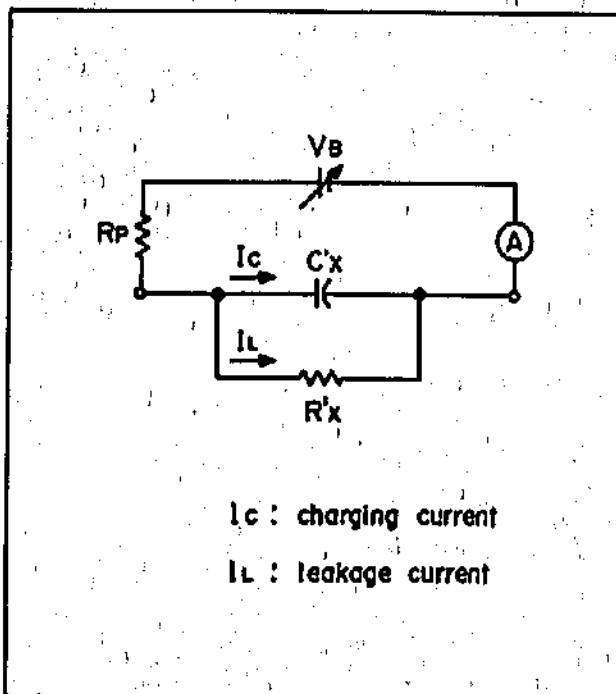
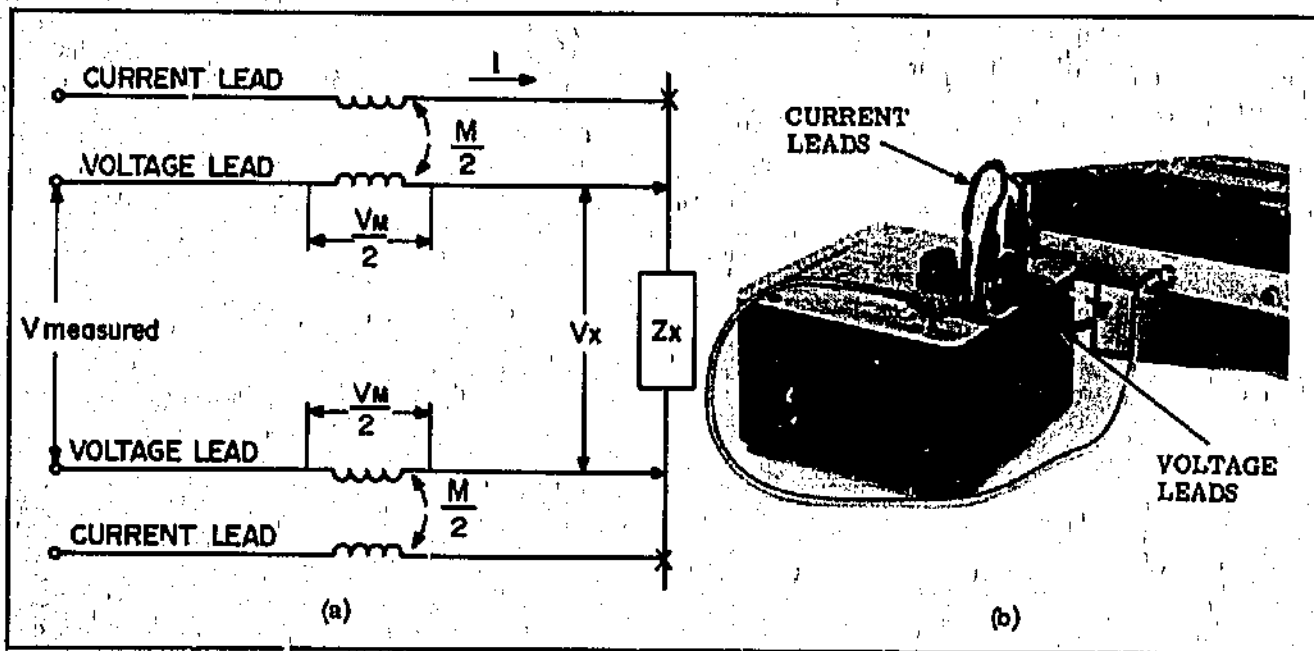
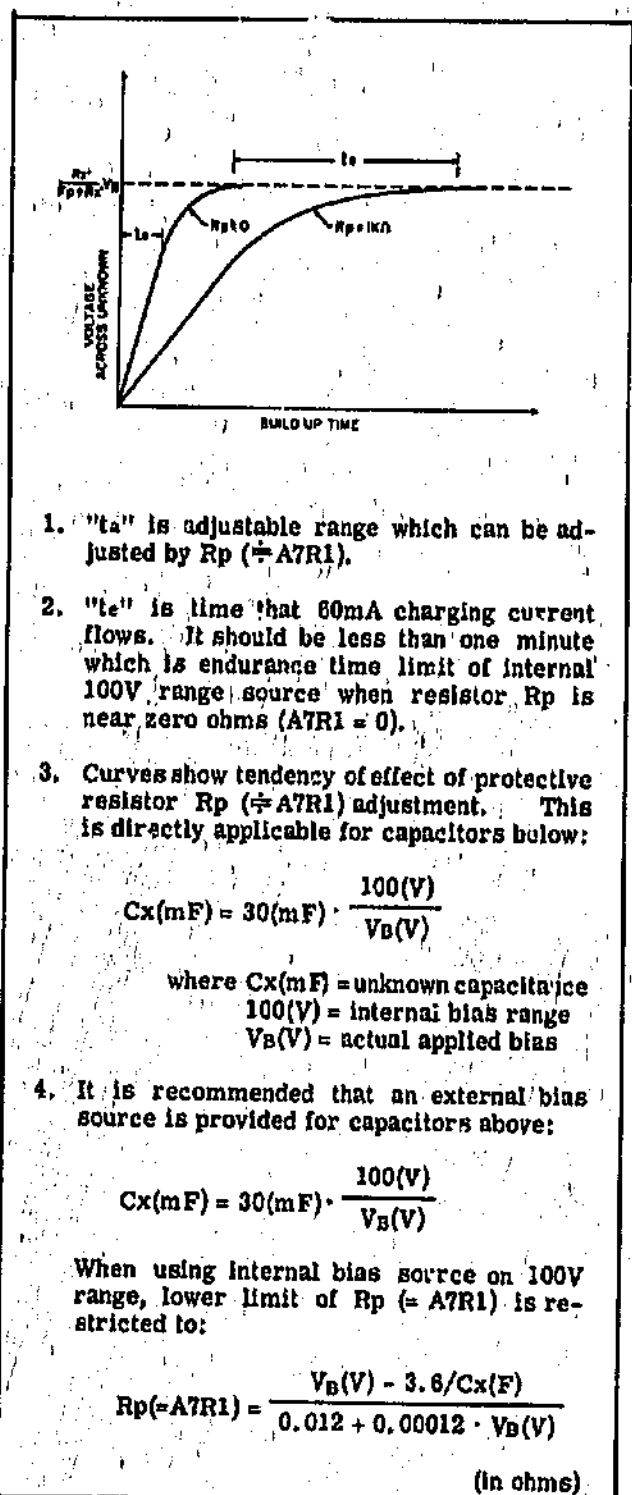

Figure 3-2. Basic Circuit for  $I_L$  Measurement.
Figure 3-3. Test Lead Effects (Hi-C Measurements).
Figure 3-4. Effect and Adjustment of Protective Resistor in Bias Circuitry.
3-9. When equipped with Option 001 Leakage Current, the instrument measures leakage current flowing through unknown capacitor when FUNCTION switch is set to  $I_L$ . The basic measuring circuit is shown in Figure 3-2.
I (see Figure 3-3) which produces an error. Since the effect is most pronounced at extremely high capacitances, it generally effects measurements taken on the 100mF and 1F ranges.  $E_M$  may be a positive or negative value with respect to  $E_x$ , thus it is not necessarily always a plus or always a minus error.
3-36. For a more accurate measurement, the obvious answer is to reduce  $E_M$ . This need is not apparent from reading the display.  $E_M$  is proportional to  $\omega$ , M and I [see Figure 3-3(a)]. Considerations for these three factors are:
Longer test leads and a shorter distance between voltage and current leads increase error. Short test leads with voltage and current leads separated as much as possible are best. It is also useful to twist the two voltage leads together and same for current leads as voltages induced in short twisted sections interact inversely with each other. In addition, it helps to set voltage leads and current leads at right angles to each other. This prevents interlinking of magnetic flux [see Figure 3-3(b)].
**3-46.** In the leakage current measuring circuit, when DC BIAS RANGE switch is set to 100V or EXT position, a  $1k\Omega$  resistor A7R1 (see  $R_p$  in Figure 3-2) is inserted in series with unknown to limit excessive charging current. This means that it takes a relatively long time to build up a very large capacitor. For example, the time constant  $\tau$  is 50 seconds when  $R_p$  is  $1k\Omega$ ,  $C_x$  is 100mF and  $R_x$  is  $1k\Omega$  as shown in Figure 3-3. If, for example, it takes 5 $\tau$  to complete build up of the unknown capacitor, a total build up time of 250 seconds would be required. Therefore, it is recommended and practical that the resistance value of the protective resistor be reduced in these instances. The effect of the adjustment is shown in Figure 3-4 (with notes). Here is how the protective resistor may be adjusted: